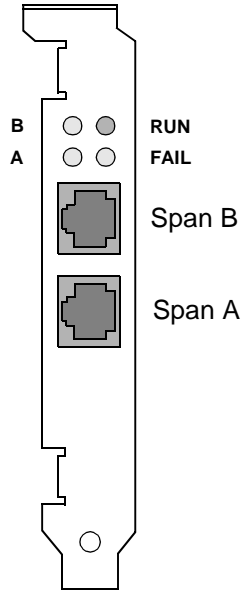

Figure 1: Front of Mounting Bracket
PRI-PCI adapters contain four (4) LED indicators that can be viewed through the front panel (Figure 1).